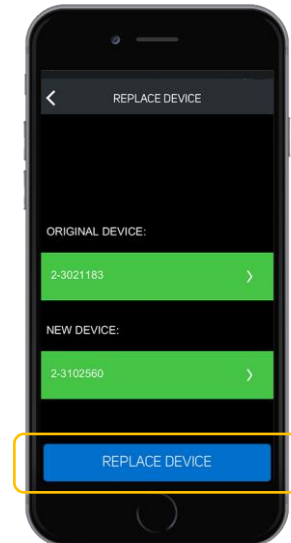

FIG. 2
- 3) Ensure that the **ESNs** highlighted in green are correct. (FIG. 2)